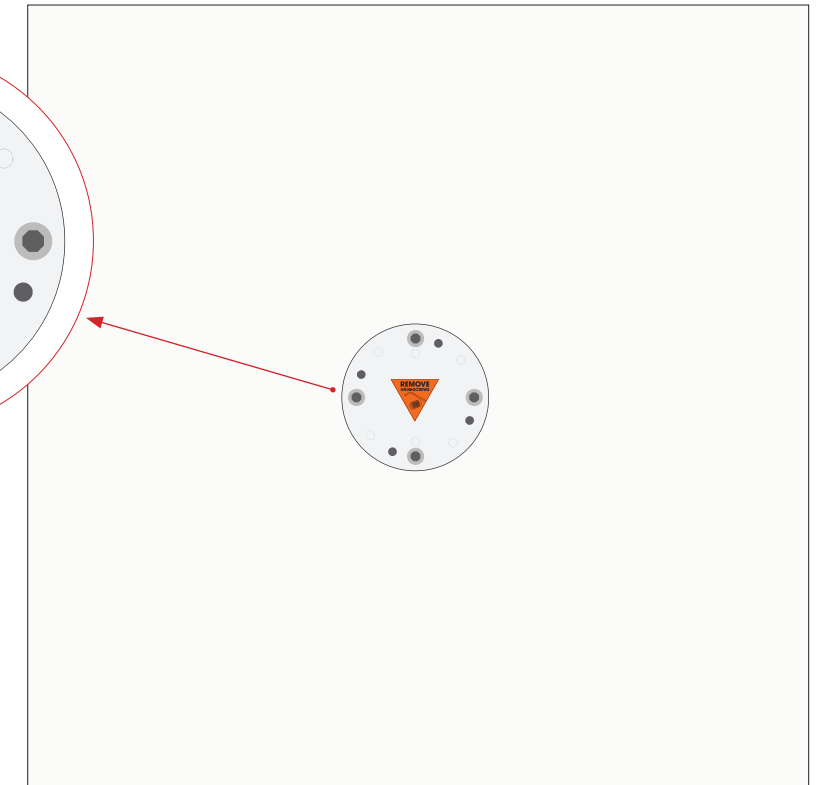

FIGURE 1A
2. Bring your attention to the Universal Plate bolted to the center of NGU-550 (**FIGURE 1**). **DO NOT** remove the four bolts holding this plate down (**FIGURE 1A**). It does not need to be removed to mount your umbrella. You will need to remove the grub-screws in the Universal Deck Plate mounted to the NGU-550 (**SEE RED PATTERN IN FIGURE 2**).